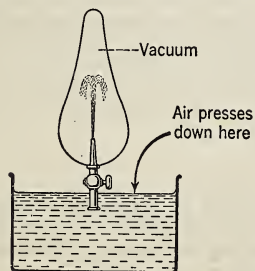

FIG. 78. Fountain in a vacuum.
13. Exhaust the air from a bottle fitted with a stopcock, as shown in Fig. 78. When the tube is held below the surface of water, a stream of water flows into the bottle when the stopcock is opened. Explain.